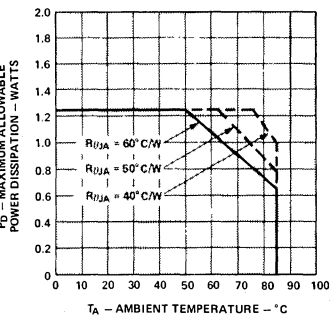

Figure 2. Maximum Allowable Power Dissipation vs. Temperature
- The device should be derated linearly above 50°C at 16.7 mW/°C. This derating is based on a device mounted in a socket having a thermal resistance from case to ambient at 35°C/W per device. See Figure 2 for power deratings based on a lower thermal resistance.
The HDSP-2000/-2001/-2002/-2003 are available in standard ceramic dual-in-line packages. They are designed for plugging into sockets or soldering into PC boards. The packages may be horizontally or vertically stacked for character arrays of any desired size. Full power operation ($V_{CC} = 5.25V$, $V_B = 2.4V$, $V_{COL} = 3.5V$) with worst case thermal resistance from IC junction to ambient of $60^\circ C/watt/device$ is possible up to ambient temperature of $50^\circ C$. For operation above $50^\circ C$, the maximum device dissipation should be derated linearly at $16.7 mW/^\circ C$ (see Figure 2). With an improved thermal design, operation at higher ambient temperatures without derating is possible.